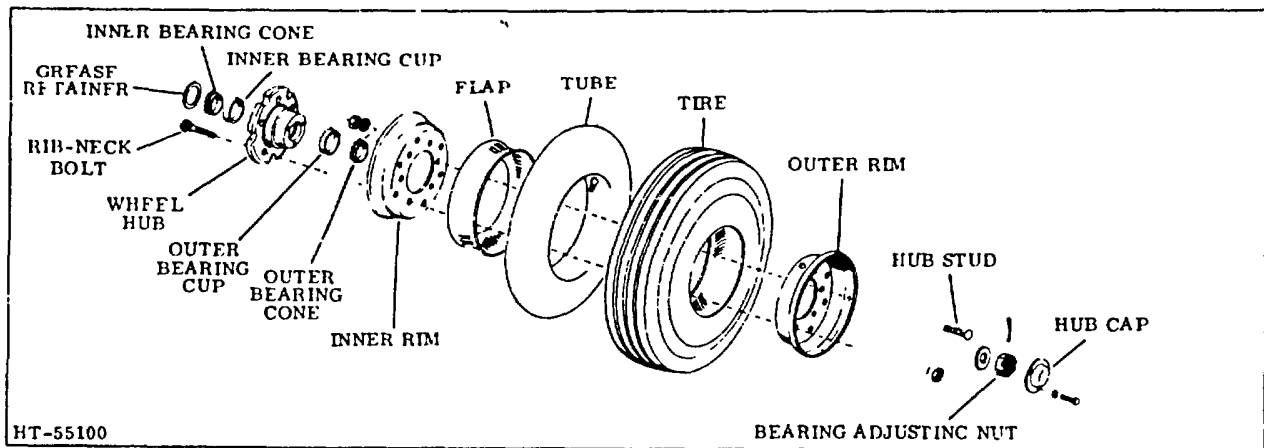

Figure 8. Steer Wheel Assembly
2. Remove the nuts and lockwashers attaching the rims to the bolts in the wheel hub. (See Figure 8.)